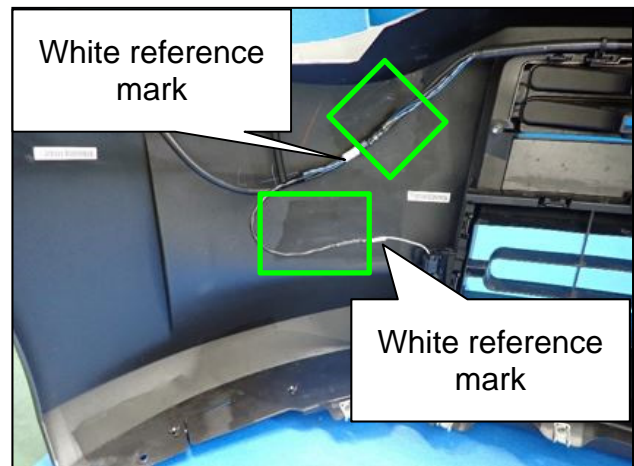
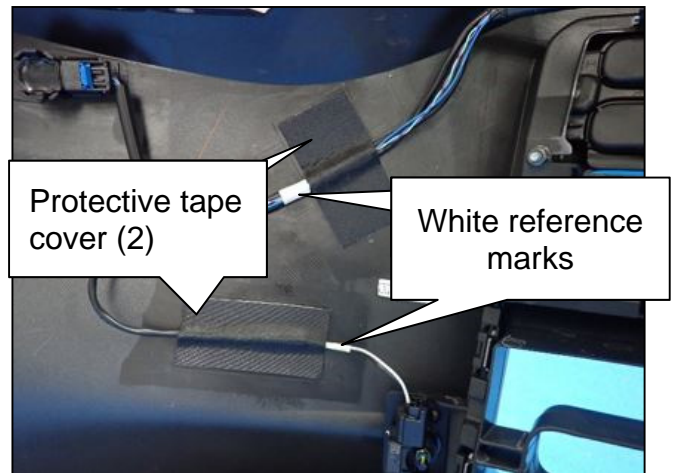

Figure 20
Figure 21
15. Install two (2) protective tape covers onto the driver (LH) side front bumper fascia sub-harness in the areas shown in Figure 20 and Figure 21.
- Align the two (2) protective tape covers using the white reference marks on the harness and the factory scribe lines on the backside of the front bumper fascia.
- Figure 21 shows the two (2) protective tape covers fully installed.